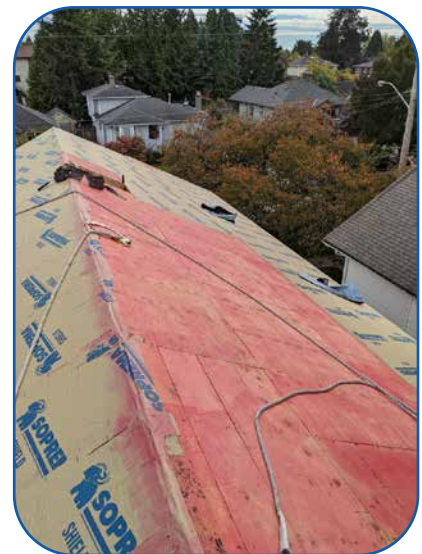

Figure 2 Self-adhered vapour barrier membrane (beige) adhered with epoxy primer on the wood roof deck (red).
- Figure 2 Self-adhered vapour barrier membrane (beige) adhered with epoxy primer on the wood roof deck (red). . . . . 8